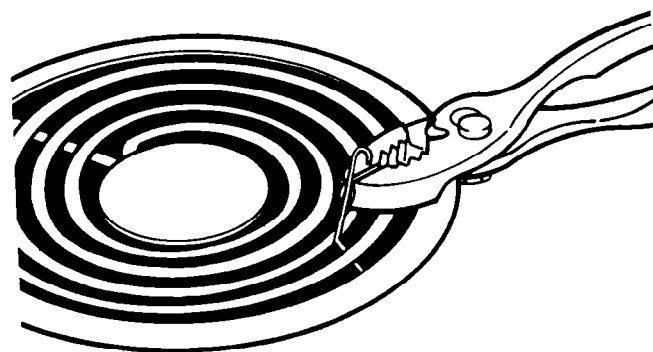

FIGURE 9
a. Lift clip with pliers or screwdriver. Bend clip to a vertical position. See Figure 9.